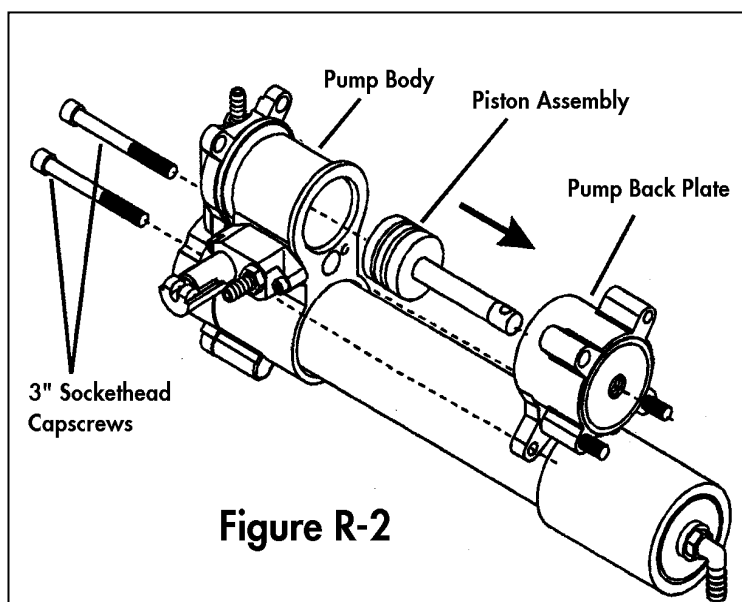

Figure R-2
4. Remove the two 3" socket head cap screws using a 1/4" Allen wrench. Separate the pump back plate and piston assembly from the pump body (see **Figure R-2**).